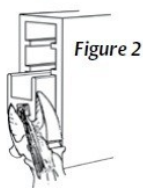

Figure 2
7. Crimp the ends of the brush strip and drop bar to prevent the nylon brush from sliding (as shown in Figure 2).